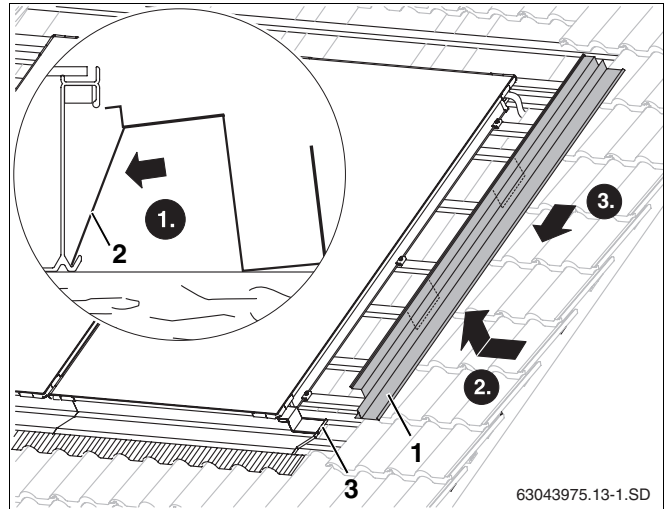

Fig. 47 Fitting the side facing panel on the right
- ▶ Place the mounting plates (Fig. 47, **Item 2**) into the lower edge of the collector.
- ▶ Place the edge of the right and left side facing panels (Fig. 47, **Item 1**) up into the recessed grip on the collector and push in over the lower facing panel.
- ▶ Press the fold overlap on both panels together to fix in place (Fig. 47, **Item 3**).